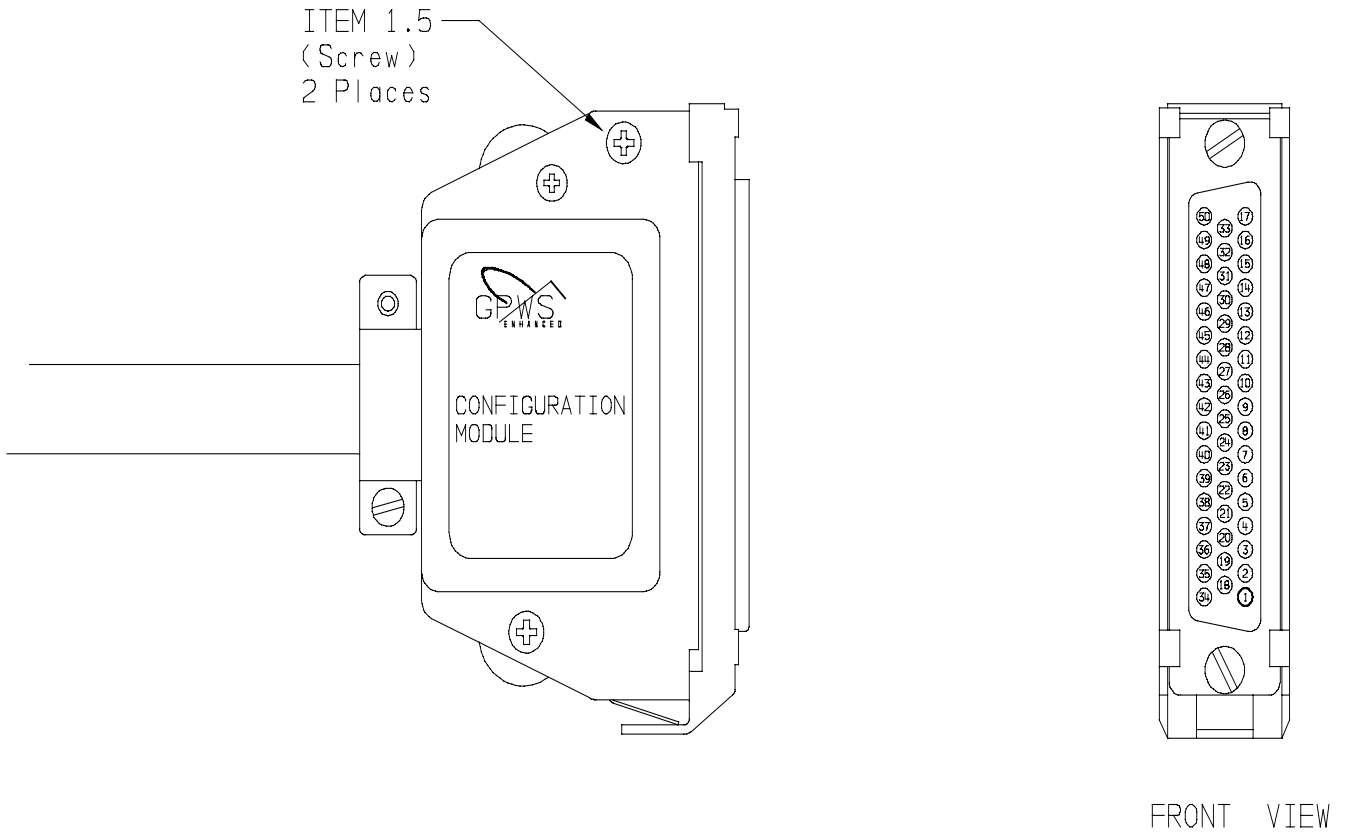

FIGURE 2-1.7 MK XXII EGPWS CONFIGURATION MODULE
STEP 7 Secure Configuration Module to connector assembly using item 1.5 (Screws) as shown in figure 2-1.7 below. Tighten Cable Clamp screws as required.